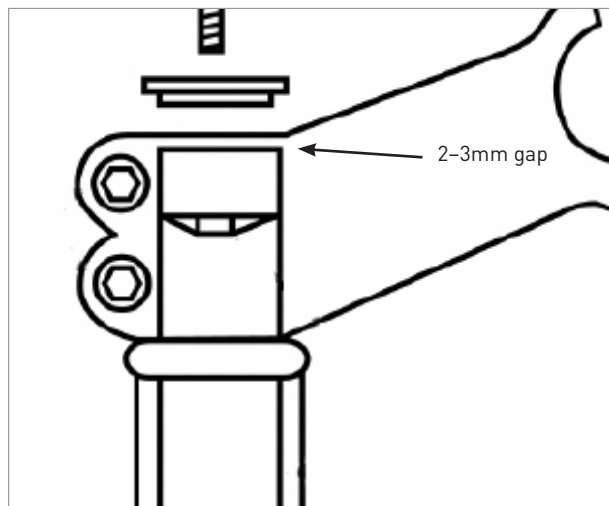

Figure 1
4. The top of the steerer should be 2-3mm below the top of the stem steerer clamp (fig. 1). If the steerer is too long with the desired amount of spacers inserted, it must be cut and the headset star-nut or compression plug must be repositioned. If the steerer is too short, there is insufficient clamping surface for the stem to be installed securely.